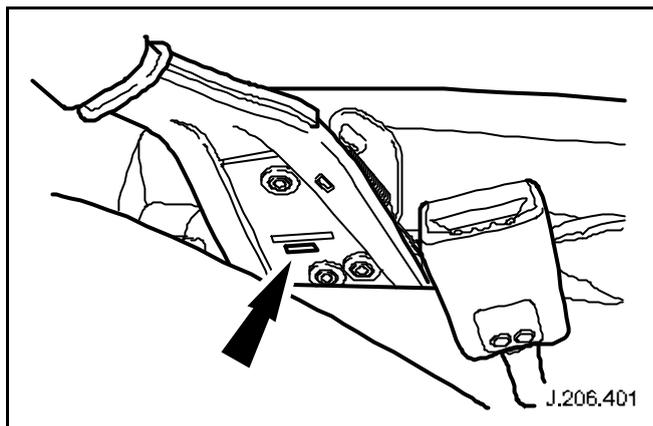

Fig. 5
**Note:** The manufacture date of the parking brake lever can be obtained from the parking brake lever body. (See Fig. 5)